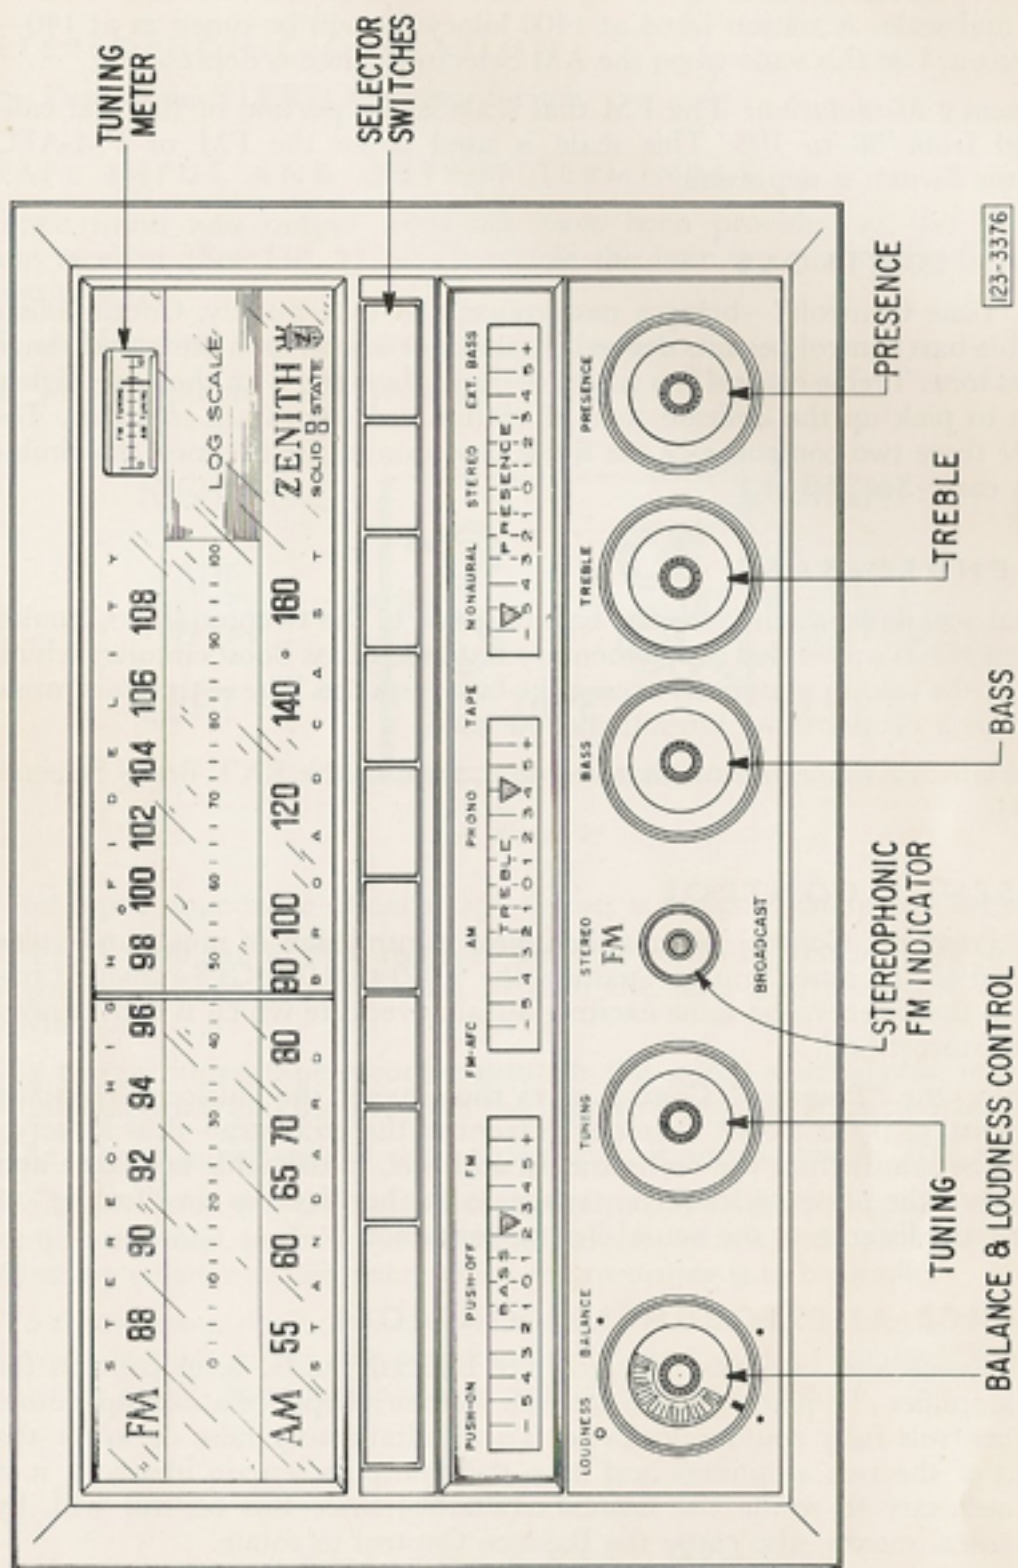

Figure 4—Control Panel
The "Tone Controls"—bring a new concept to tone quality. Continuously variable bass control permits desired emphasis or lows within the broad range of bass tone. Treble control lets you vary the highs along with the wide higher range to pick up the delicate tone of violins and coloratura sopranos. Together these two controls give the finest tone quality for the most discriminating ear. (See Fig. 4.)
1. Push-in the MONAURAL Selector Switch (See Fig. 4.)
*Broadcast Band:* Figure 4 shows the position of the Control knobs. To place the instrument in operation, push in the PUSH ON Selector Switch. Push in the AM Selector Switch.
To tune the receiver, turn the Tuning Control knob slowly to the desired station, being guided by the tuning indicator, and readjust the Loudness Control knob to the right or left for the desired volume. To turn the receiver OFF, push in on the PUSH OFF Selector Switch. (See Fig. 4.)
When the FM station to which you are tuned is transmitting stereophonically, the Stereophonic Indicator on the Tuner control panel (See Fig. 4) will light up indicating the tuner is receiving a stereophonic program. Should you tune to a monaural FM program the Indicator will not light up, indicating the receiver is operating monaurally and receiving a monaural program.
1. Push in the PHONO Selector Switch. (See Fig. 4.)
1. Push in the PHONO Selector Switch (See Fig. 4.)